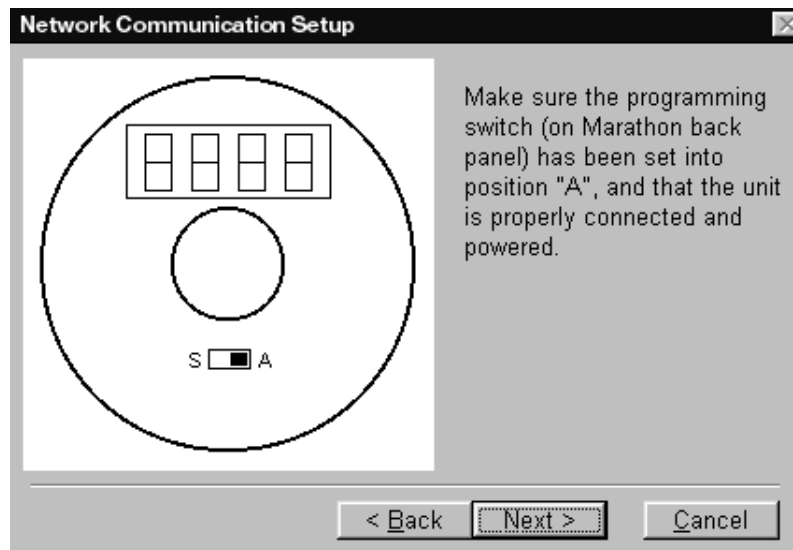

Figure 3-9: Switch Selection/Verification Screen
- On the sensor's back panel is a switch that is labeled "S" and "A." The next screen (Figure 3-9), prompts you to make sure the switch is in the "A" position, and to check once more that power and all connections are secure. If everything is correct, click the Next button.